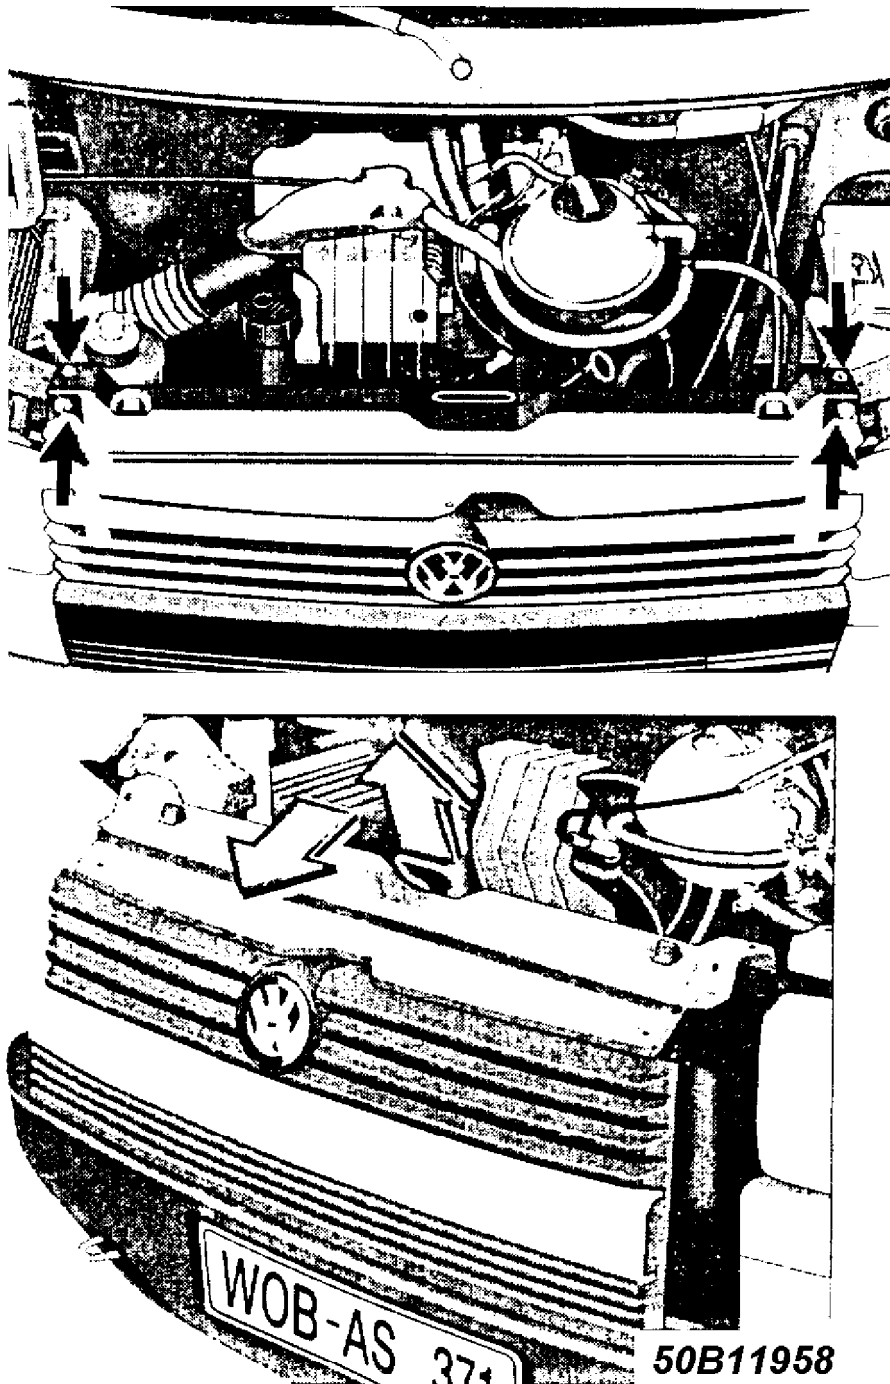

Fig. 2: Tilting Radiator for Service
- 4) TO MANUALLY RELEASE gear selector, push finger between brushes at base of shifter and push catch to the left. (See Fig. 2).